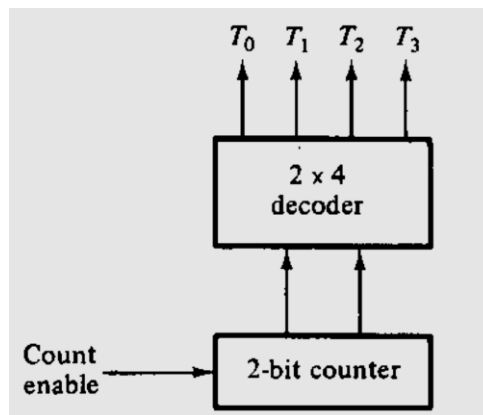

Figure 9.2: 4-bit ring counter
- Fig. 9.2 shows a 4-bit ring counter using decoder and counter.